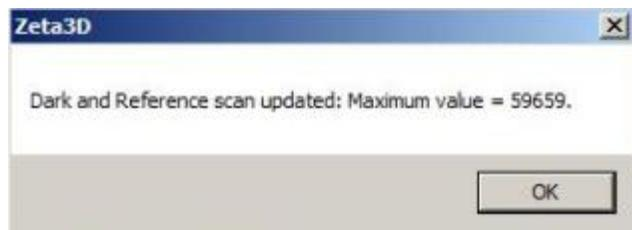

Fig. 117. Reference scan value
4. Click the **Capture Reference** button in the *Film Thickness* dialog. The system takes a measurement and when it is complete, the message shown in Fig. 117 appears.